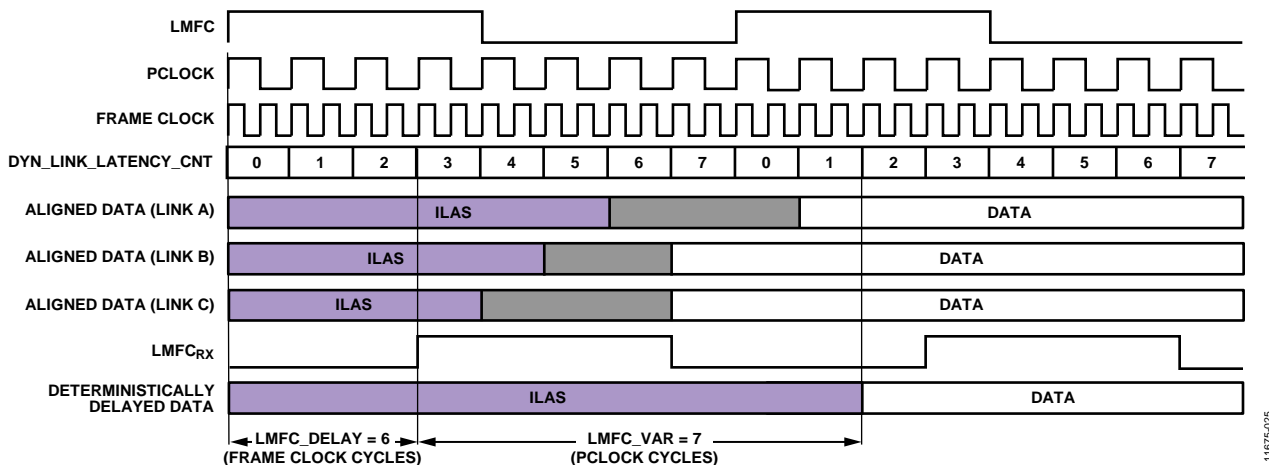

Figure 51. Multilink Synchronization Settings, Derived Method Example
Figure 51 shows how DYN\_LINK\_LATENCY\_x (Register 0x302 and Register 0x303) provides a readback showing the delay (in PClock cycles) between LMFCRX and the transition from ILAS to the first data sample. By repeatedly power-cycling and taking this measurement, the minimum and maximum delays across power cycles can be determined and used to calculate LMFCVar and LMFCDel.
The example shown in Figure 51 is demonstrated in the following steps according to the procedure outlined in the Without Known Delays section. Note that this example is in Subclass 1 to achieve deterministic latency, which has a PClockFactor (FrameClockRate/PClockRate) of 2 and uses K = 16; therefore PClocksPerMF = 8.
1. In Figure 51, for Link A, Link B, and Link C, the system containing the AD9144 (including the transmitter) is power cycled and configured 20 times. The AD9144 is configured as described in the Device Setup Guide. Because the point of this exercise is to determine LMFCDel and LMFCVar, the LMFCDel is programmed to 0 and the DYN\_LINK\_LATENCY\_x is read from Register 0x302 and Register 0x303 for Link 0 and Link 1, respectively. The variation in the link latency over the 20 runs is shown in Figure 51 in grey.